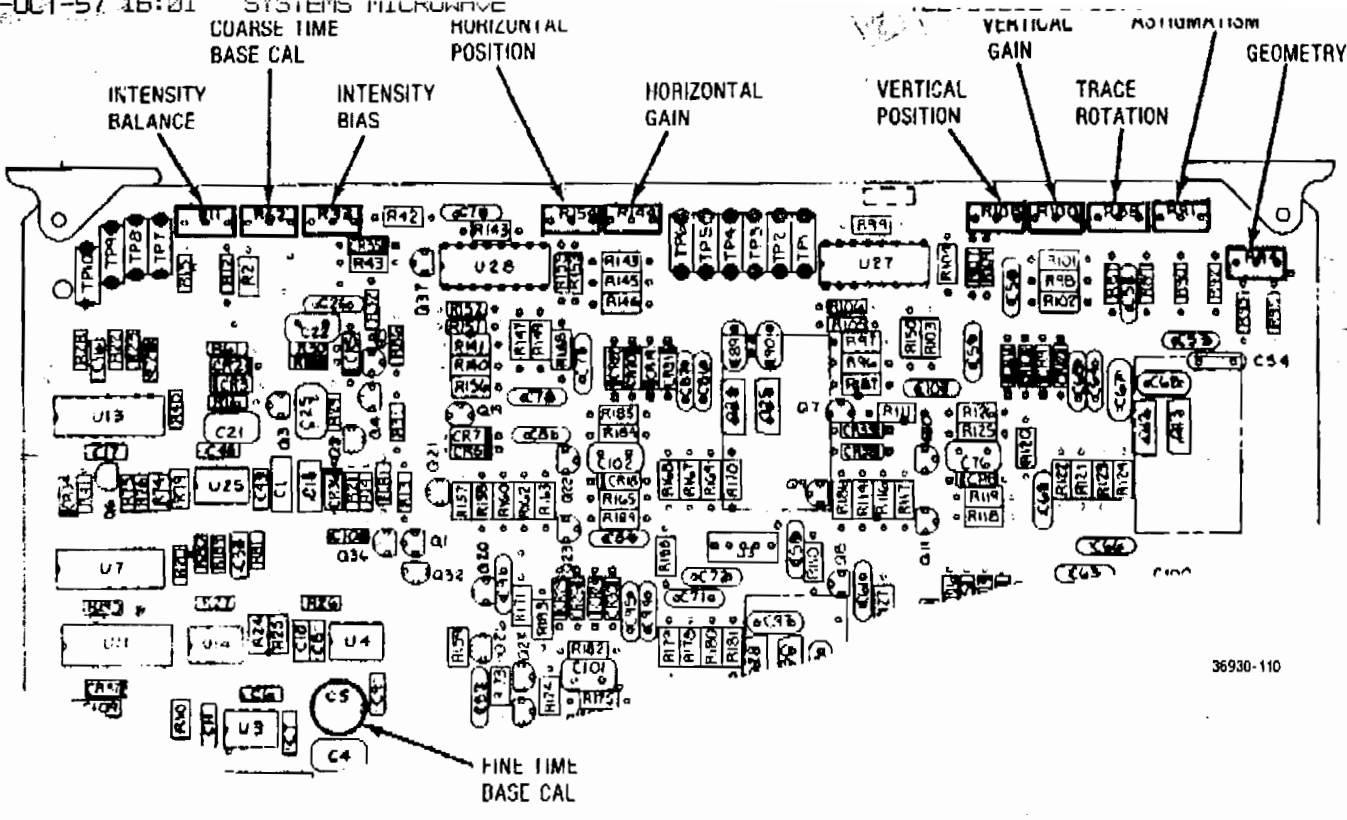

Figure 3-1. Scope Amplifier Board (A2) - Alignment Points
2. Adjust the Intensity Bias potentiometer on the Scope Amplifier board (Figure 3-1) until a dot appears on the screen. You may have to use the Vertical and Horizontal position control (Vert, Horiz) on the front panel to bring the dot onto the screen. Then back off the Intensity Bias potentiometer until the dot just disappears.
2. Adjust the Intensity Balance potentiometer (Figure 3-1) for uniform intensity of the horizontal trace from left to right. The Balance potentiometer affects the intensity on the left side of the trace.
2. While using the Focus control to maintain a focused display at the center of the CRT, adjust the Astigmatism and Geometry potentiometers (Figure 3-1) for the best focus at the outer edges of the CRT with minimum pincushion and barrel distortion of the display. The two adjustments are interactive; to get the best display, alternate repeated small adjustments between the two
2. With the Test-Point Shorting Jumper, connect TP1 of the Scope Amplifier board (Figure 3-1) to chassis ground.
3. Adjust the Trace Rotation potentiometer (Figure 3-1) to make the horizontal trace on the CRT perpendicular to the graticule center line.
4. Adjust the Vertical Position potentiometer (Figure 3-1) so that the horizontal trace on the CRT passes through the graticule center point.
5. Adjust the Trace Rotation potentiometer (Figure 3-1) to align the horizontal trace on the CRT behind the horizontal graticule line.